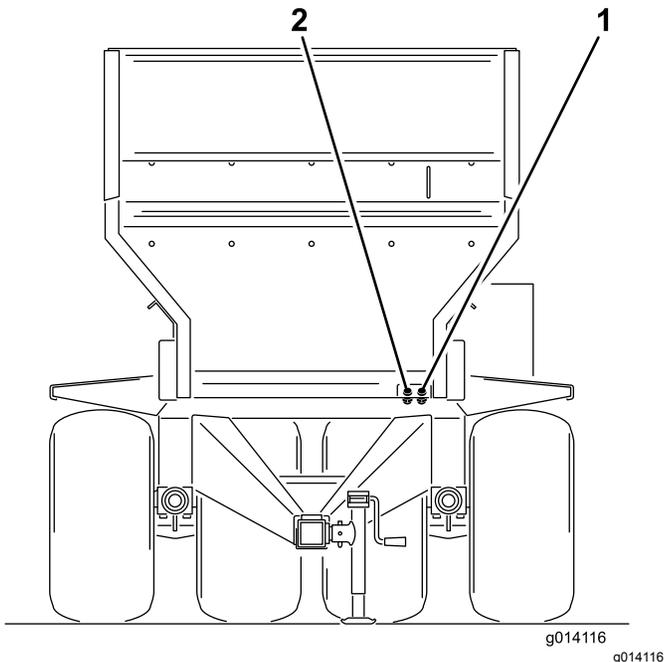

Figure 20
6. Connect the two hydraulic hoses from the machine to the tow vehicle. Facing the front of the machine, connect the right hose to the pressure side and the left hose to the return side (Figure 20). The return hose has an in line one way check valve. The arrow on the check valve should face the tow vehicle return connector.